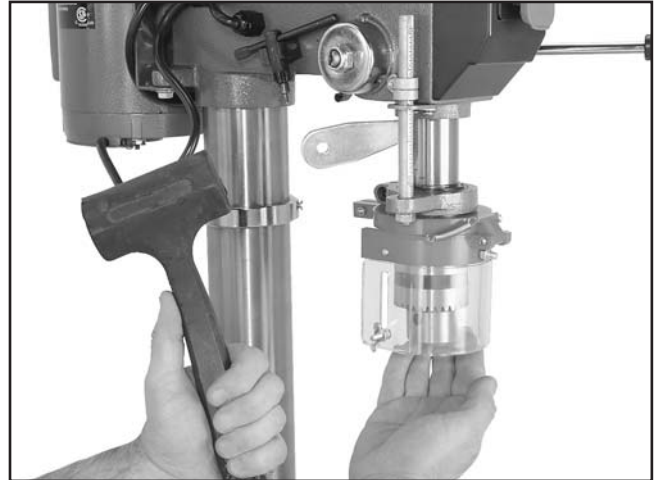

Figure 32. Using drift key to remove arbor.
6. Tap the drift key with a rubber or wooden mallet, as shown in **Figure 32**, until the chuck releases and catch the chuck with your hand.